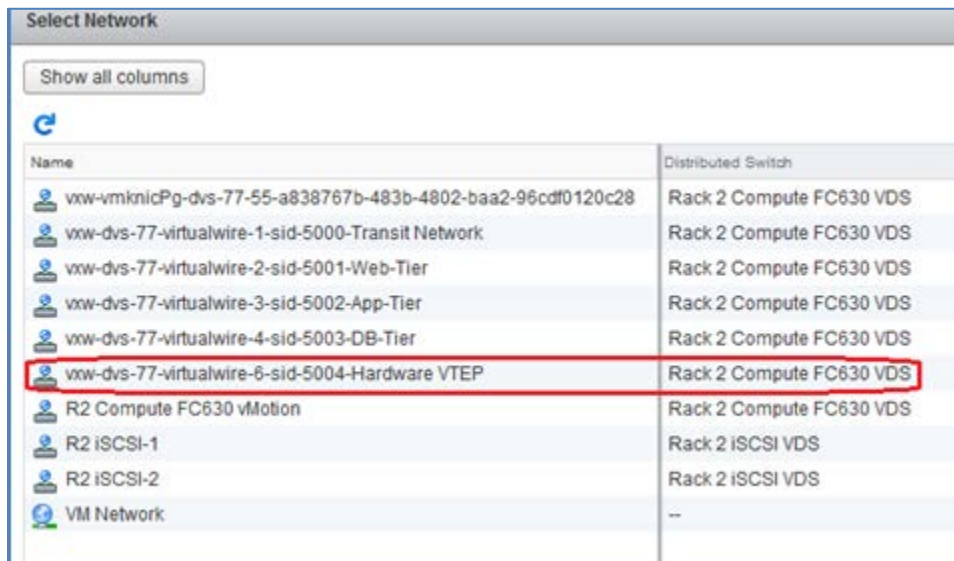

Figure 104 Select Network dialog box
4. Next to **New Network**, expand the drop-down menu and select **Show more networks**. This opens the **Select Network** box shown in Figure 104: